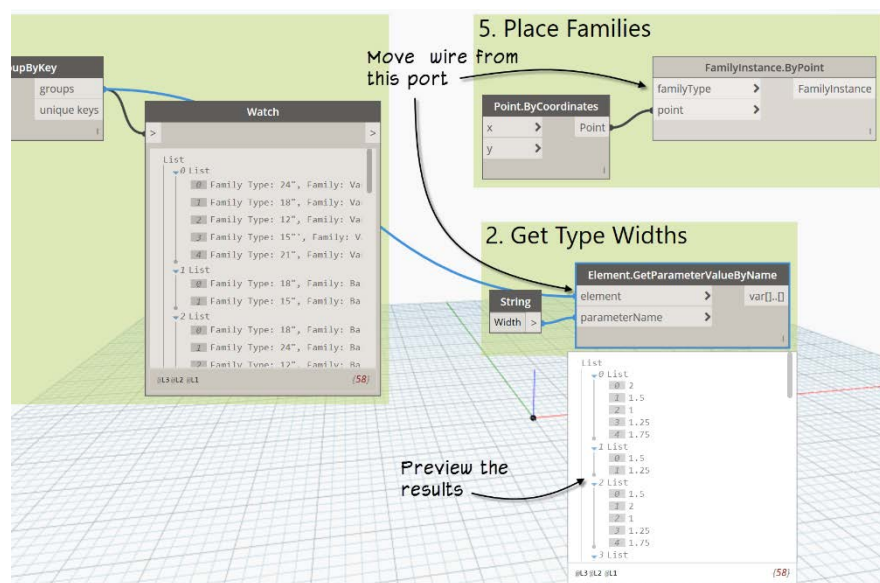

Figure 49
28. Run the graph and then click the preview bubble (see Figure 49).